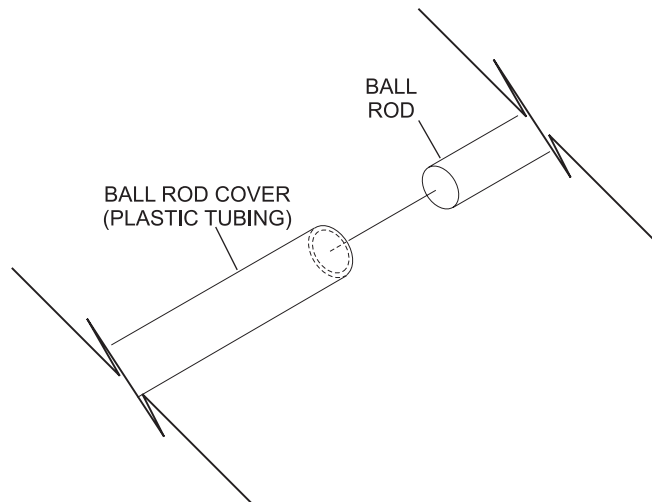

Figure 3
- Use both hands to slide the plastic tube over ball rod. Refer to *Figure 3*.